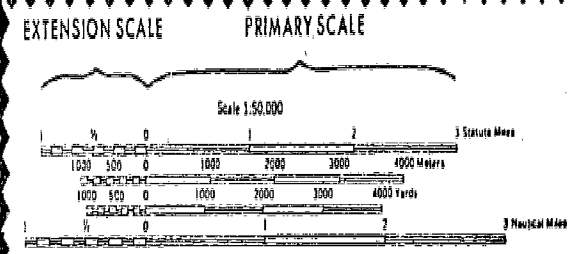

Figure 1-2. Graphic (bar) scales.
a. On most military maps there is another method of determining ground distance. It is by means of the graphic (bar) scales. A graphic scale is a ruler printed on the map on which distances on the map may be measured as actual ground distances. To the right of the zero (0) the scale is marked in full units of measure and is called the primary scale. The part to the left of zero (0) is divided into tenths of a unit and is called the extension scale. Most maps have three or more graphic scales, each of which measures distance in a different unit of measure (fig. 1-2).